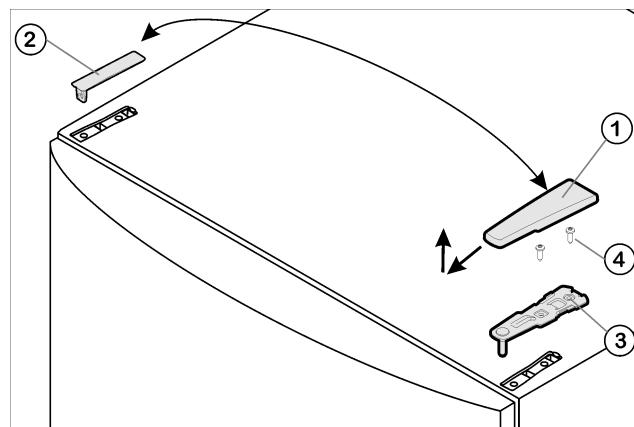

Fig. 5
- Pull the cover Fig. 5 (1) forward and up.
- Lift the cover Fig. 5 (2) off.
- Unscrew the upper bearing bracket Fig. 5 (3)(2 Torx® 25 screws) Fig. 5 (4) and pull it upward to remove.
- ▶ Insert the upper bearing bracket *Fig. 5* (3) on the new hinge side into the door.
- ▶ Tighten the upper bearing bracket (**to 4 Nm**) (2 x Torx® 25 screws) *Fig. 5* (4). Make preliminary holes (optional) or use a cordless screwdriver.
- ▶ From the outside, position cover *Fig. 5* (1) and cover *Fig. 5* (2) on the opposite side and snap into place.